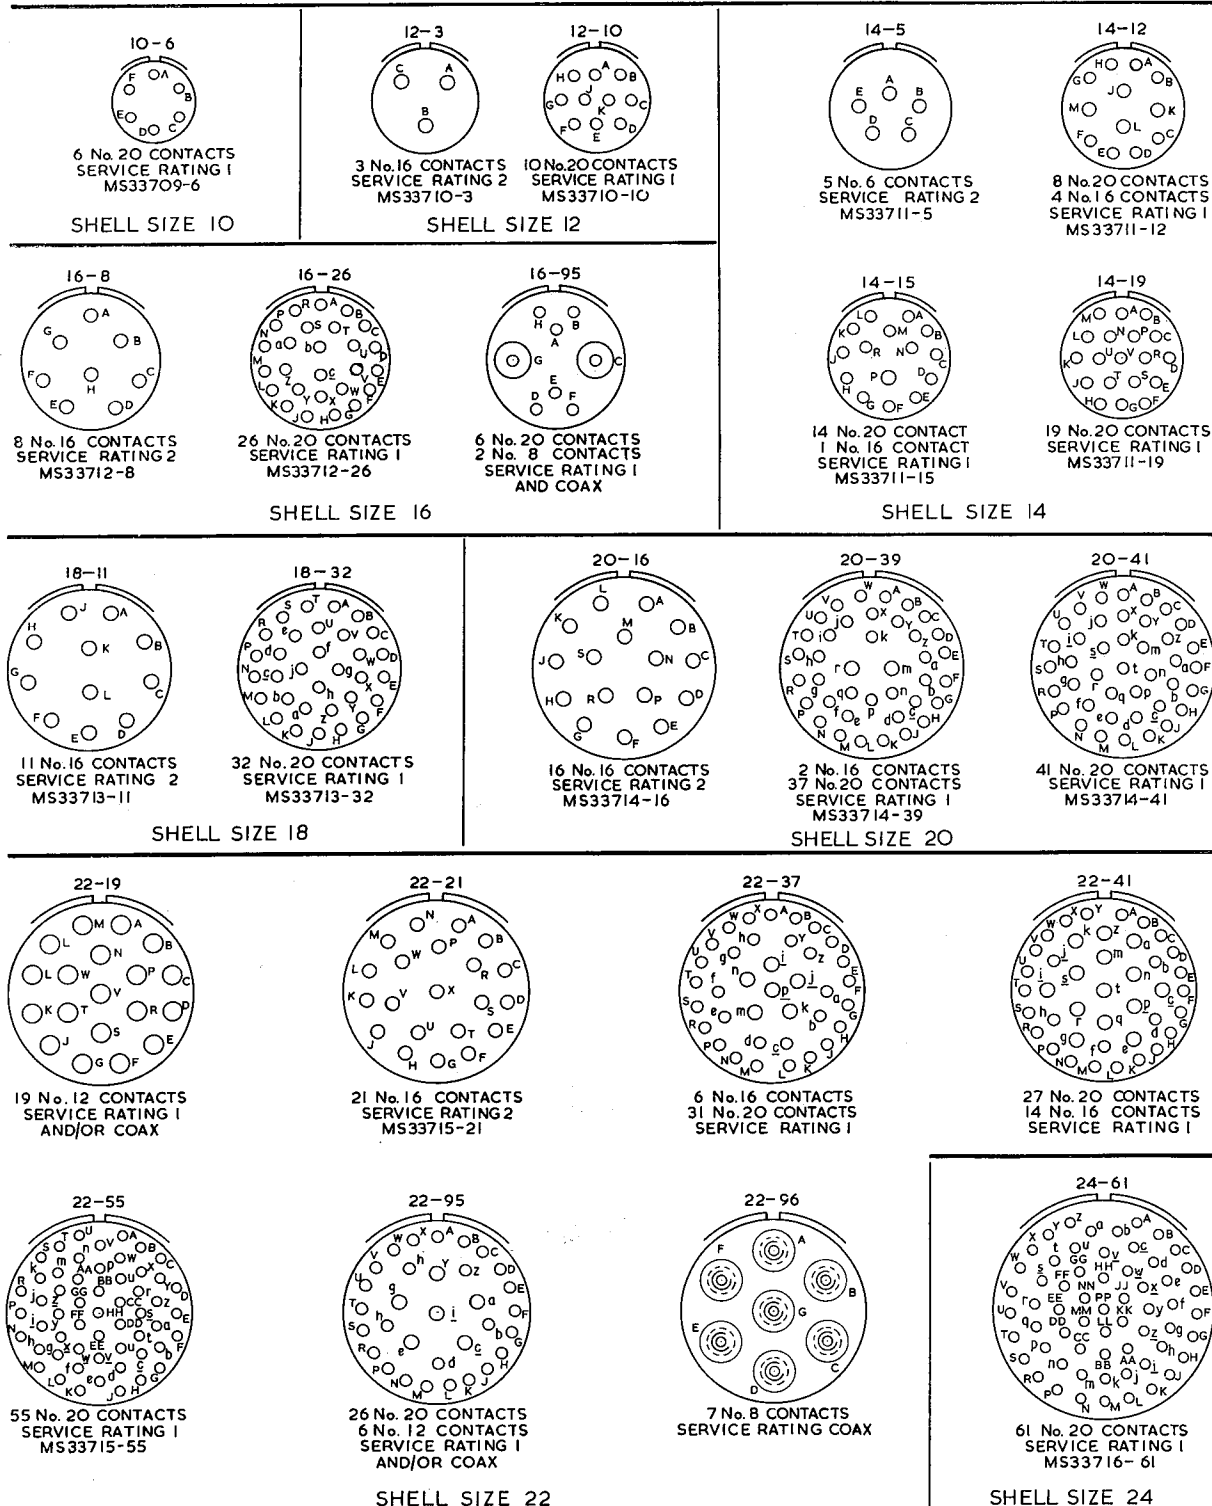

Fig. 4. Contact arrangements
outer body. Refer to contact arrangements fig. 4 for connectors that will accept coaxial contacts and to Table 4 and 5 for the cable size to be used. An example of both types of contacts is shown in fig. 2.
8. Fig. 4 shows the contact arrangements available in each shell size. Also the number and size of contacts fitted to each arrangement.